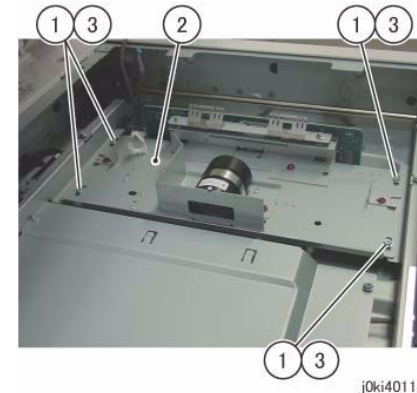

Figure 3 Replace the CCD Lens Assembly
6. Replace the CCD Lens Assembly. (Figure 3)